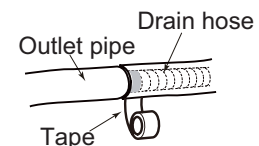

Fig.9
- (2) Bind the joint with tape. (As shown in Fig. 9)